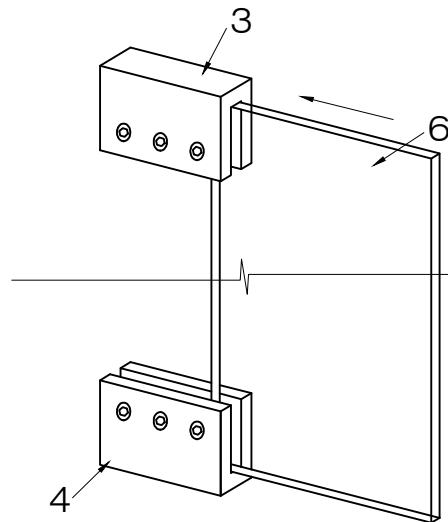

FIG.5A
2. One installer manually inserts the convex portion of the turning hinge (#3) into the concave portion of the turning hinge base (#1) and holds the position. The hinges should be turned to a slightly open position. The other installer lifts the door panel (#6) and gently slides it into both turning hinges at the same time. [SEE FIG. 5A]